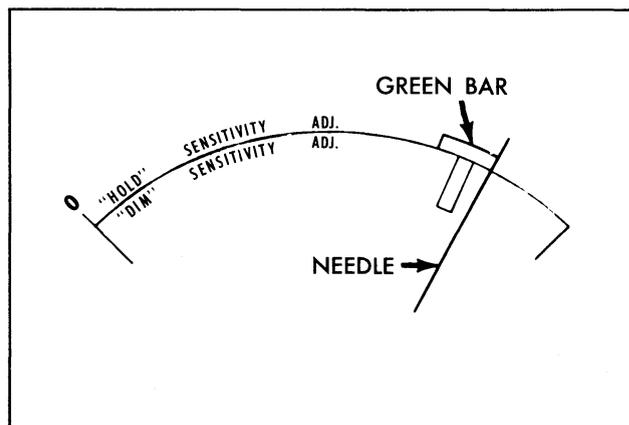

Fig. 13-67 Meter Reading for Hold Adjustment
7. Recheck Hold adjustment by turning Intensity Rheostat SLOWLY counter-clockwise just to point where headlamps switch to upper beam. Meter pointer should now be aligned with the right hand edge of "hold" adjustment green bar if adjustment is correct. (See Fig. 13-67) If not, repeat procedure starting with step 1.